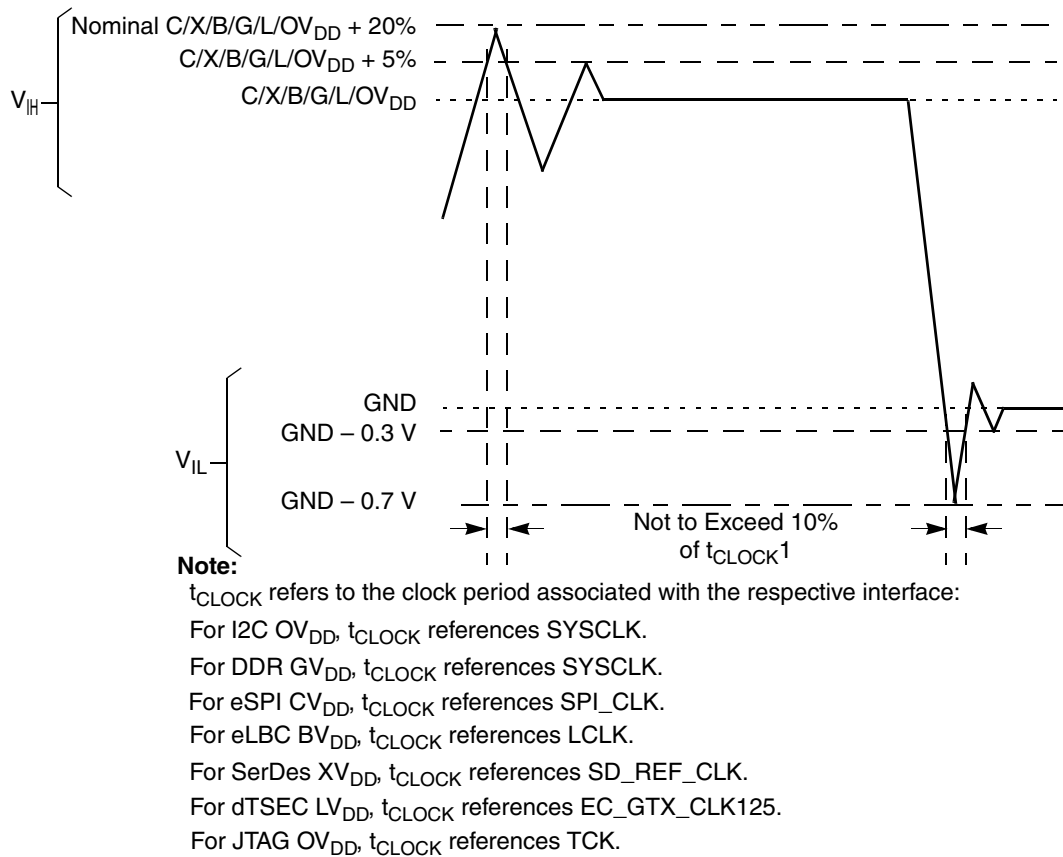

Figure 7. Overshoot/Undershoot Voltage for $BV_{DD}/GV_{DD}/LV_{DD}/OV_{DD}/XV_{DD}/CV_{DD}$
- (C,X,B,G,L,O) V_{IN} and MV_{REFn} may overshoot/undershoot to a voltage and for a maximum duration as shown in Figure 7.
Figure 7 shows the undershoot and overshoot voltages at the interfaces of the P4080.